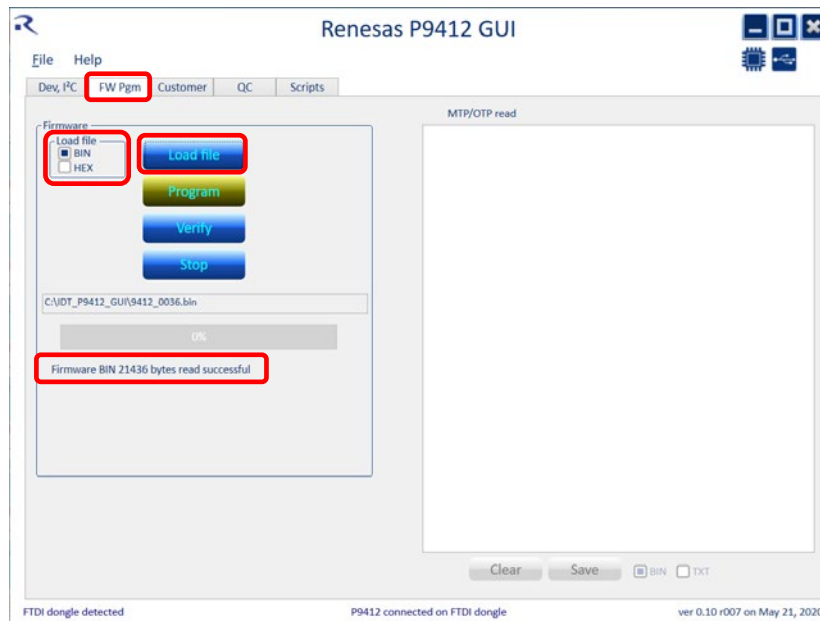

Figure 7. P9412 MTP Programming using I²C Slave Device Address 0x3C
- To update the MTP program, select the “FW Pgm” tab. Then make sure the proper file type is selected, either HEX or BIN box is checked and Press the “Load File” button, a pop-up window will appear. Navigate to the current P9412 FW *.* file and Open the file. See Figure 7, which indicates the FW file was read successfully.